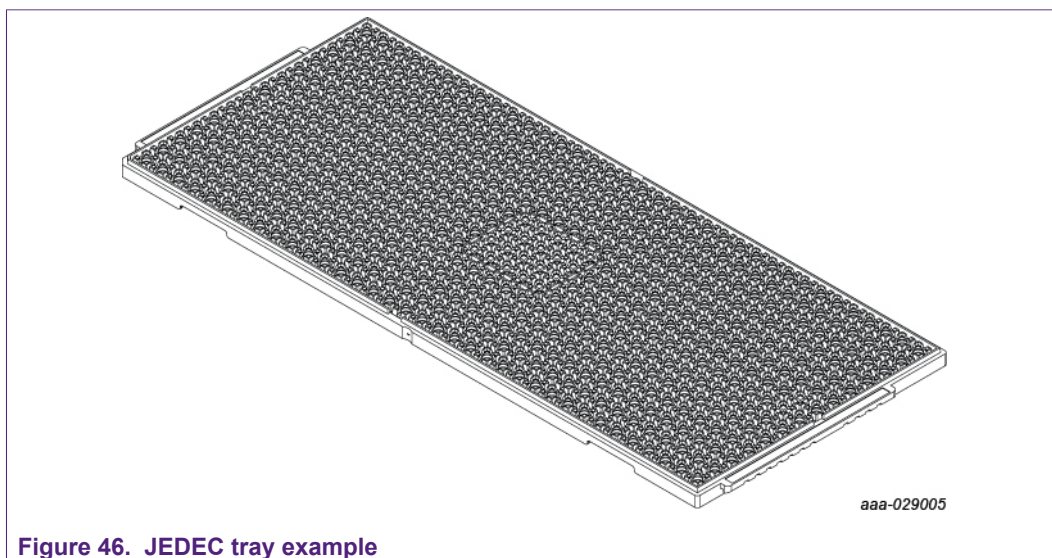

Figure 46. JEDEC tray example
- NXP complies with standard JEDEC tray design configuration (see Figure 46).